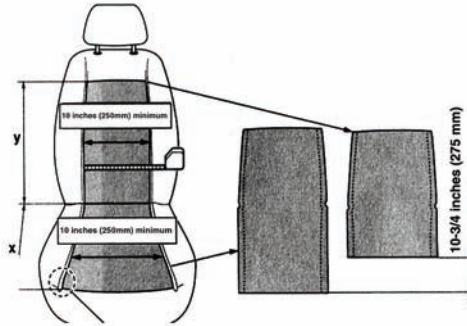

Figure 7
**NOTE:** Make sure that the length difference between the cushion pad and back rest pad is not more than 10-3/4 inches (275 mm). Refer to Figure 7.